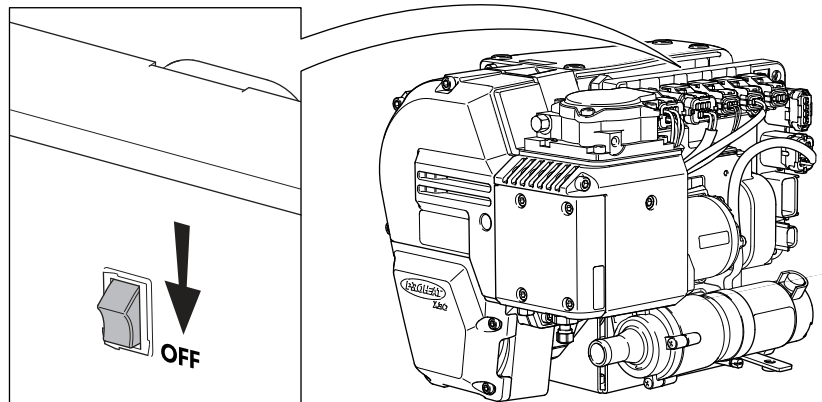

Figure 1.
2. Ensure the CAN Bus 120 Ω terminating resistor switch located on the back of the PCM is in the OFF position as shown in figure 1.